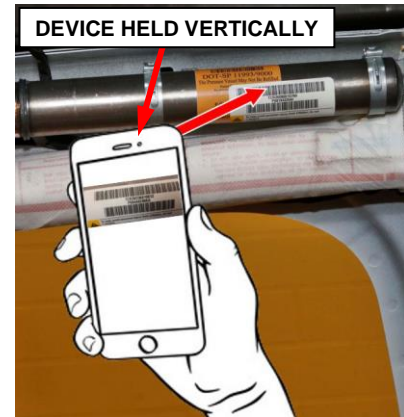

Figure 86 – Scan Barcode
- **Method 1:** Using a smartphone or tablet held vertically, click on the barcode scanner icon (Figure 87) to open the barcode scan function. Ensure the device camera is enabled and device is held vertically. Aim the camera directly at the SABIC traceability number barcode as shown in (Figure 86). The barcode scanner will automatically record the barcode and populate the traceability number entry field (Figure 87). Scan the barcodes for the left side and right side SABIC inflators.